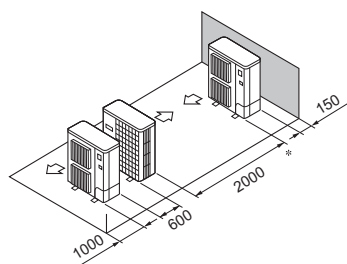

Fig. 3-15
- ⑤ Enkelt parallel enhed arrangement (Fig. 3-15)